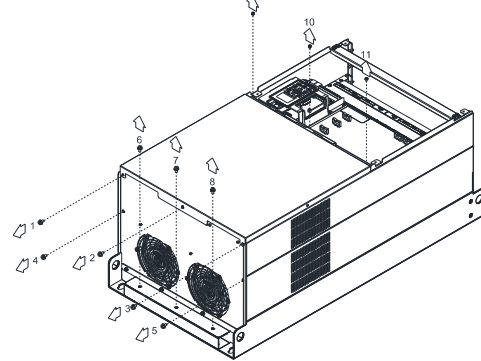

Figure 2
3. For 9–10 shown in the figure 2: Loosen the screws and remove the cover. Screw M4 torque: 14–16 kg-cm / [12.2–13.9 lb-in.] / [1.4–1.6 Nm]